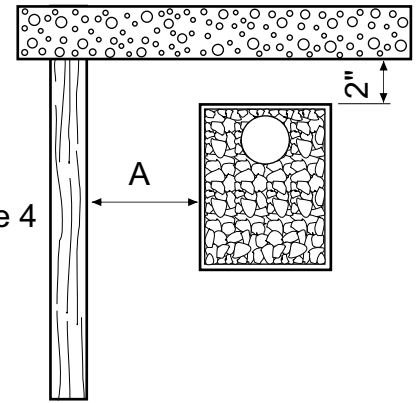

Figure 4
4. If the wall has been bedded in, a 2" vent hole between the wall and the vertical surfaces of the stove is enough. (Figure 4) Dimension A is determined according to the protection method used for wooden surfaces